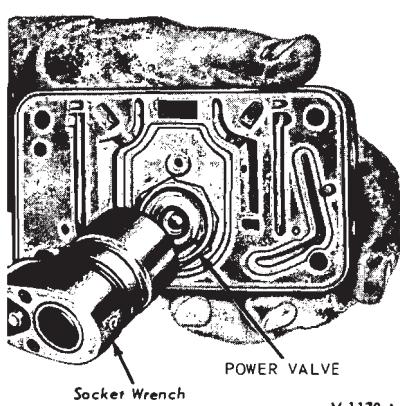

FIG. 11—Power Valve Removal or Installation
4. Using a socket wrench, remove the power valve and gasket (Fig. 11).